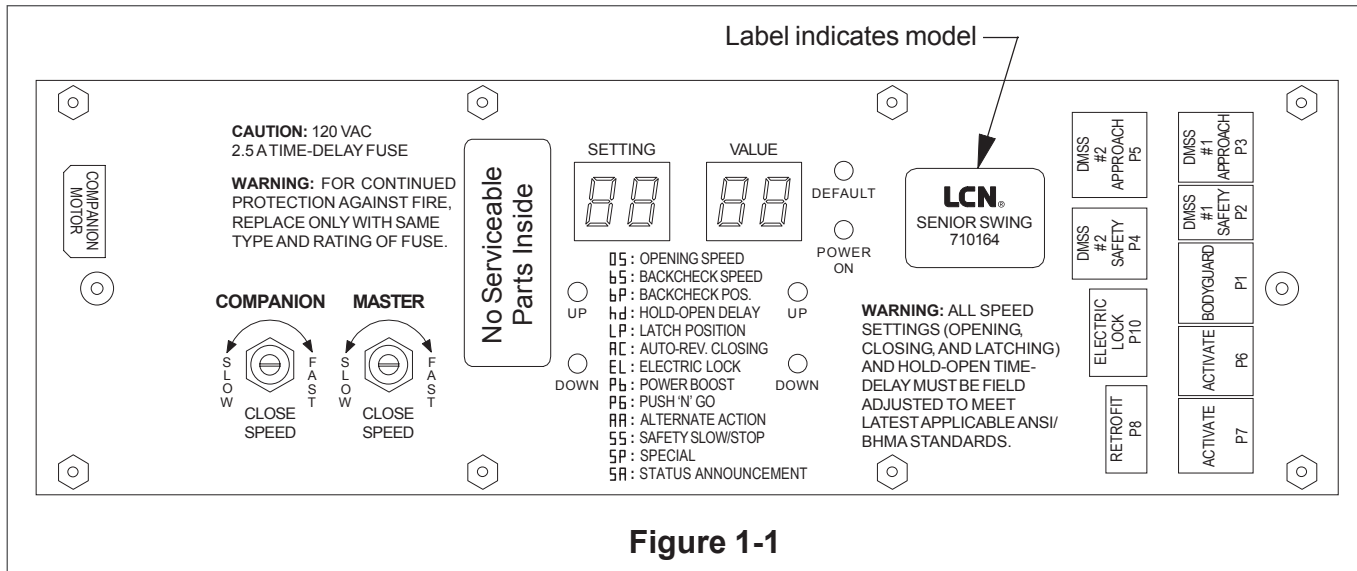

Figure 1-1
- 1b Check that the control box model (indicated on control box label; Figure 1-1) is correct for the application.